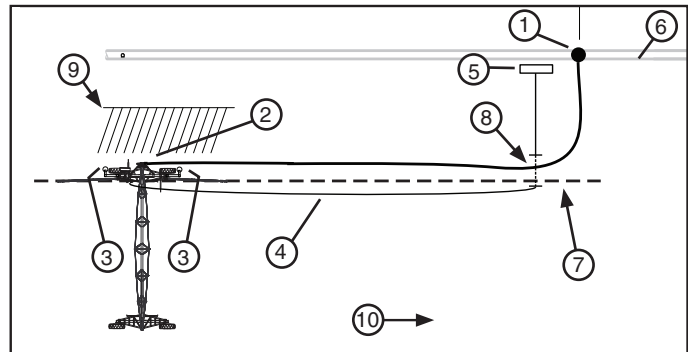

Figure 51-1 1. Shut Off Valve 6. Alternate Power Pedestal and Electric Cord Position
1. Connect the first hose to the pipeline shut off valve and linear cart swivel inlet, then latch in place. See figure 51-1.
- (b) Position the electric cord far enough away from the hose, so that the hose will not drag over it. To prevent interference between the electric cord, cart tires and hose, bury the electric cord in the area where interference will occur or when applicable, position the electric cord over the top of hose. See figure 51-1.